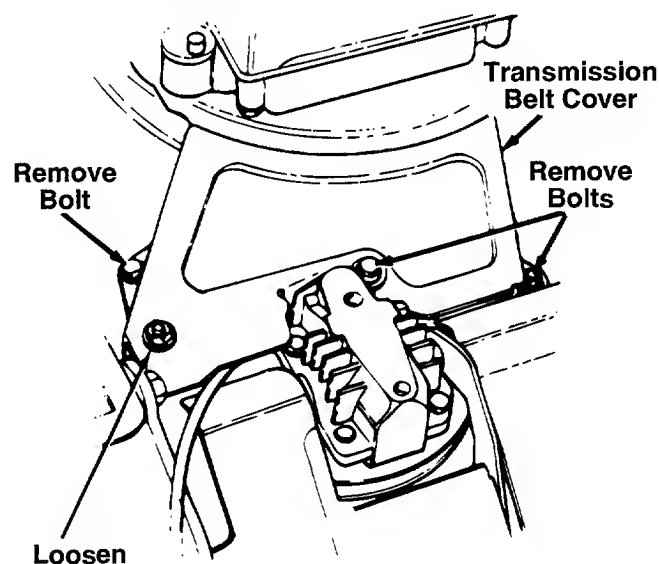

FIGURE 11.
4. Remove the transmission belt cover by removing three bolts. See figure 11.